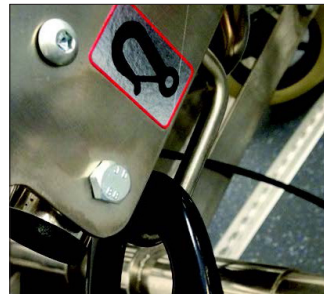
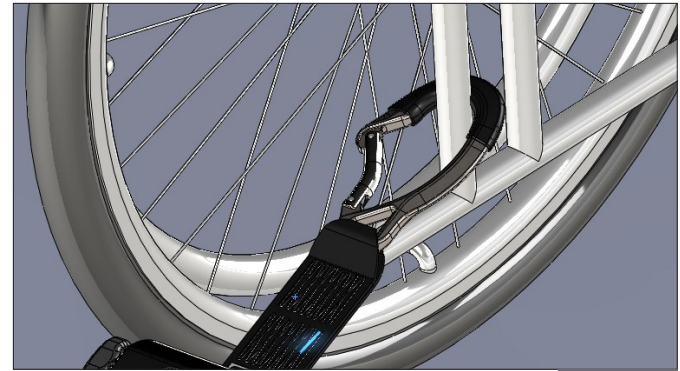

Figure 7
Figure 6
**Quattro:** Press the release button(s), (Fig. 1B), to release the webbing and attach each of the karabiner, hook or tongue and buckle arrangements to the wheelchair's rear frame, (Fig. 6). (Some wheelchairs will indicate this position, Fig. 7).
**Quattro Express:** Webbing can be extended from the reel without pressing the yellow button if the lock label, (Fig. 1C), is NOT visible. Attach each of the wheelchair attachments to the wheelchair's rear frame, (Fig. 6). (Some wheelchairs will indicate this position, Fig. 7). The yellow button must be pressed if extending webbing with the label in view, (Fig. 1B). The webbing will retract automatically into the reel. **IMPORTANT: The yellow locking label must be fully visible to ensure that the reel is locked off, (Fig. 1C).**